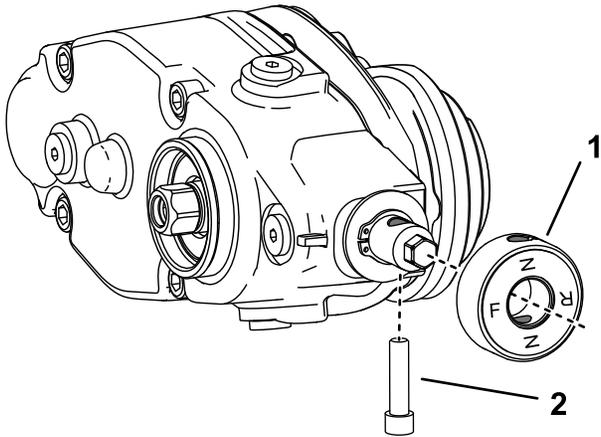

Figure 13
7. If you are installing the groomer at the left side of the machine, perform the following (Figure 13):